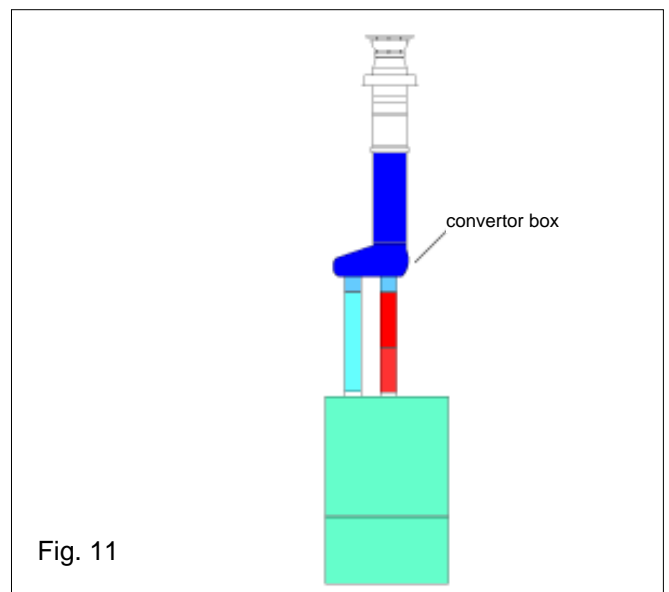

Fig. 11
4.5.3.3 VERTICAL TERMINATION (see fig. 11)